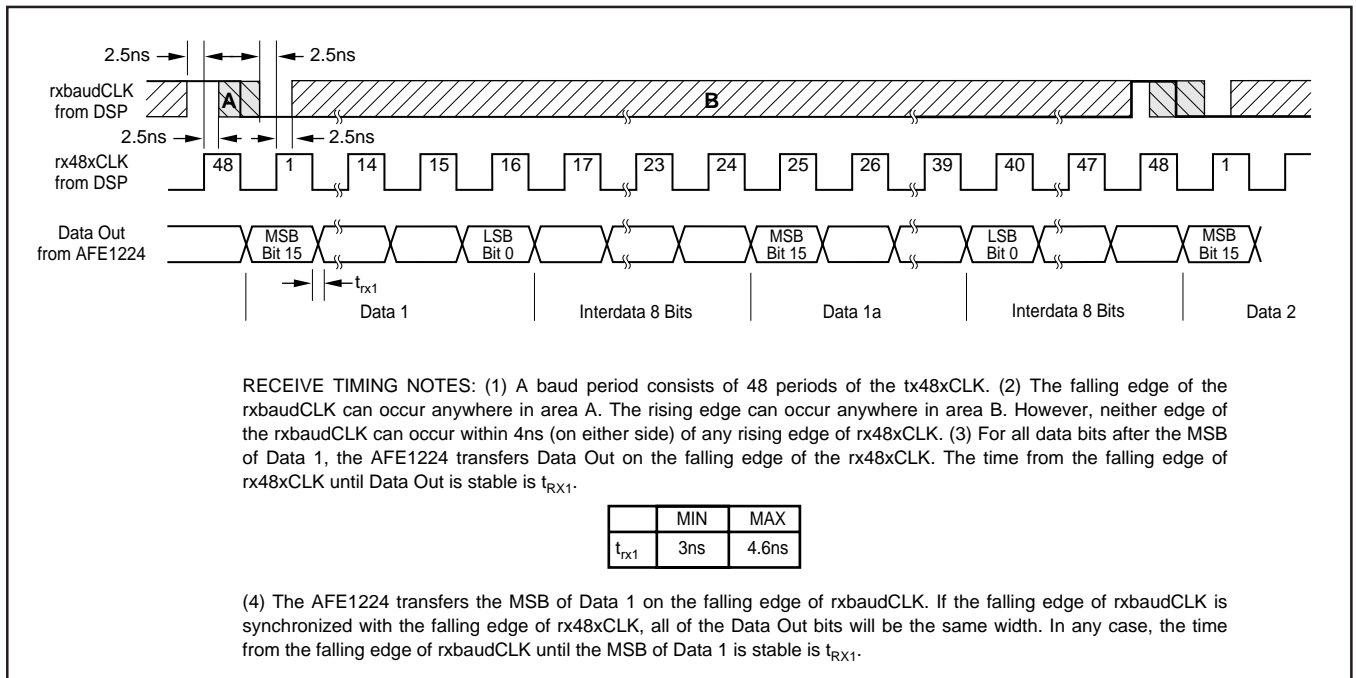

FIGURE 4. Receive Timing Diagram.
**Data Out:** This is the 14-bit A/D converter output data (+ 2 spare bits) sent from the AFE to the DSP. The 14 bits from the A/D Converter will be the upper bits of the 16-bit word (bits 15-2). The spare bits (1 and 0) will be always be LOW. Eight additional bits follow which are always HIGH. The data is clocked out on the falling edge and valid at the rising edge of the rx48xCLK. The bandwidth of the A/D converter decimation filter is equal to one-half of the symbol rate. The nominal output rate of the A/D converter is one conversion per symbol period. For more flexible post-processing, there is a second true A/D conversion available in each symbol period. In Figure 4, the first conversion is shown as Data 1 and the second conversion is shown as Data 1a. It is recommended that rxbaudCLK be used with the rx48xCLK to read Data 1 while Data 1a is ignored. However, either data output may be used and both outputs may be used for more flexible post-processing.